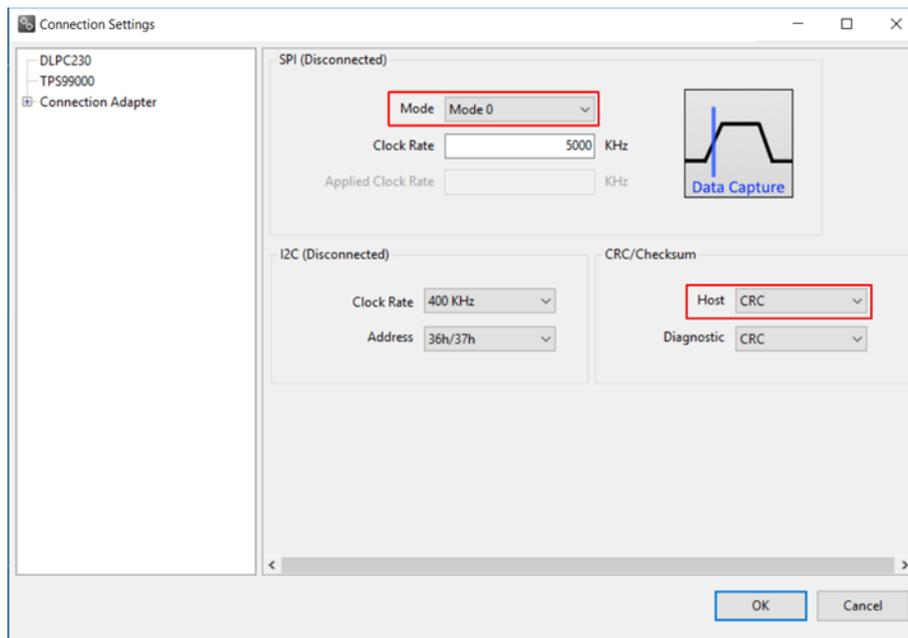

Figure 6. DLPC230-Q1 Automotive Control Program Communication Settings
3. Select "Connection Settings" to confirm the SPI configuration shown in Figure 6 matches the Controller PCB switch settings described in Table 3. Specifically, SPI mode and CRC/Checksum may vary based on switch settings. Press "OK" once configuration is complete.